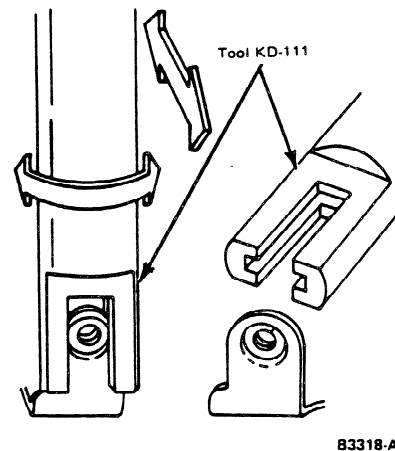

FIG. 9 Using Alignment Tool
2. Using the tool shown (Figure 9) and exerting very light pressure, align the breaker point bracket. **Do not bend the breaker arm.**